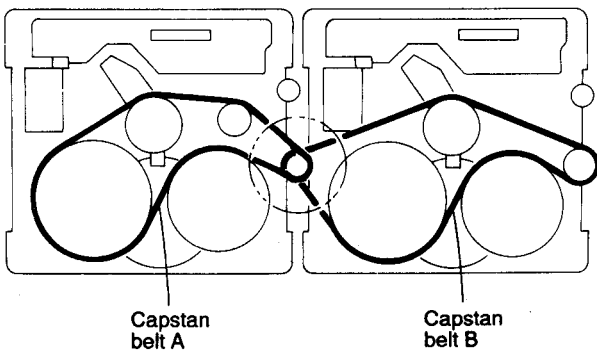

Fig.5-29
**Caution 1:** Be sure to handle the capstan belts so carefully that these belts will not be stained by grease and other foreign matter. Moreover, these belts should be hanged while referring to the capstan belt hanging method in Fig. 5-29,5-30.